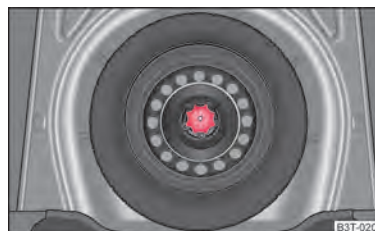

Fig. 185 Luggage compartment: Spare wheel
The spare wheel lies in a well under the floor covering of the luggage compartment and is fixed in place using special screws ⇒ fig. 185.
- Stow and attach the replaced wheel in the spare wheel well using a special screw ⇒ fig. 185.